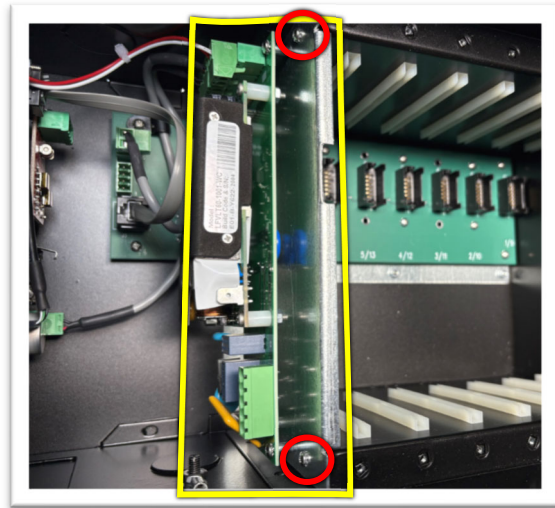

Figure 2.25
- 41) Slide the power supply bracket into its slot so that the bracket holes fit into their respective back-side enclosure posts. (See Figure 2.25; yellow)
- 42) Use the #1 Phillips 90°, low-profile (SAE) screwdriver to secure the two (2) 4-40 (SAE) screws. (See Figure 2.25; red)